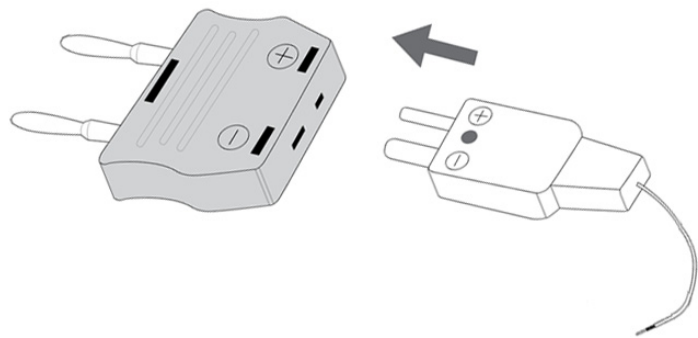
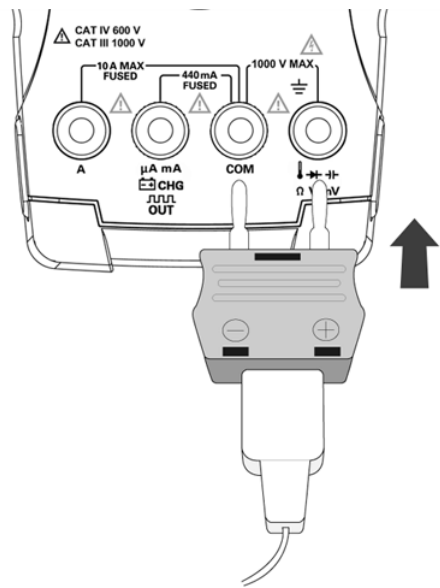

Figure 2-15 Connecting the thermal probe into the non-compensation transfer adapter
Figure 2-16 Connecting the probe with adapter into the multimeter
- 2 Connect the miniature thermal probe into the non-compensation transfer adapter as shown in Figure 2-15. Then connect the thermal probe with the adapter into the meter input terminals as shown in Figure 2-16.